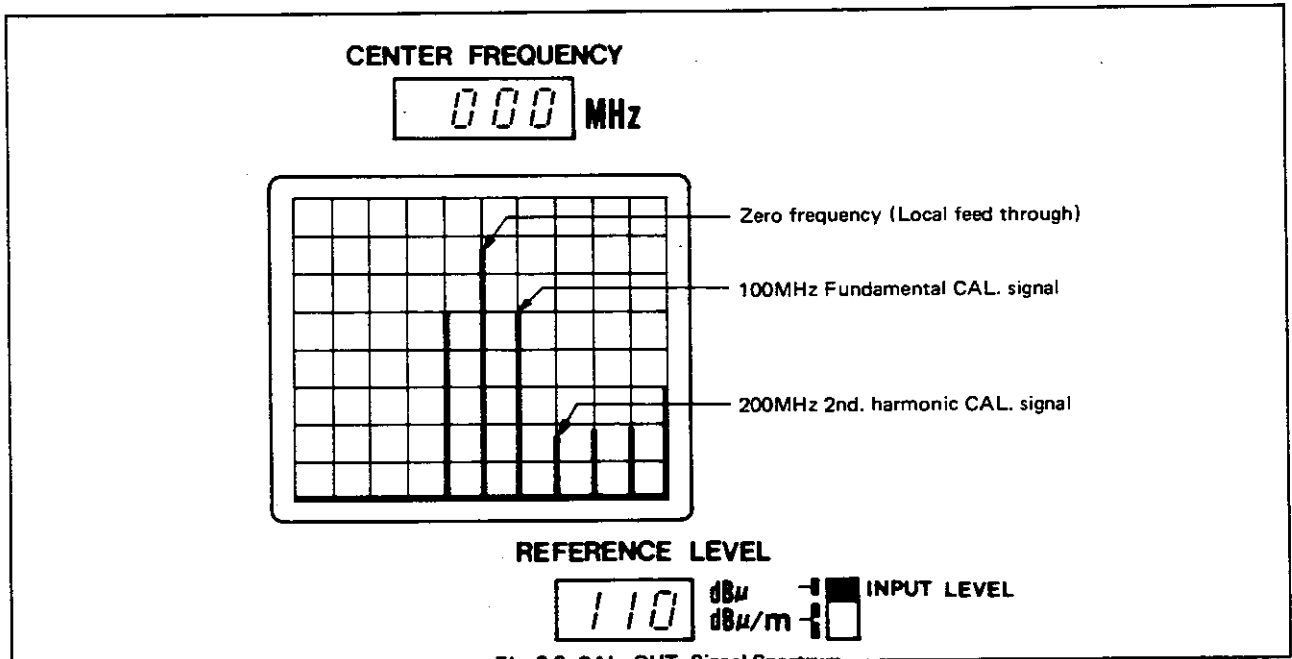

Fig. 3-3 CAL. OUT. Signal Spectrum
(9) At this time the CRT display is as shown in [Fig. 3-3].
(10) Run the instrument in this condition for about 30 minutes.